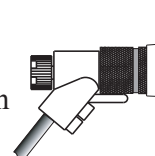

Figure 8
6. Referring to figure 8, connect the Loudspeaker hookup cables with banana plugs into the hole at the end of the MI502 Negative and Positive Output Terminals, making sure to match up channel designation with Loudspeaker location.